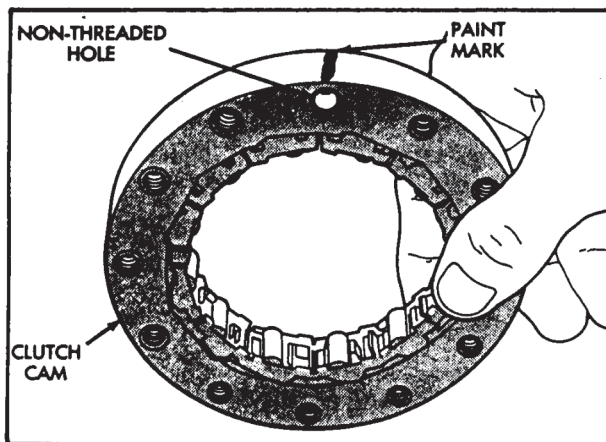

Figure 34
10. Examine the bolt holes in the overrun clutch cam. Note that one hole is not threaded (See Figure 34).
12. This hole should have been marked with paint before disassembly, as shown in Figure 34, with a corresponding mark on the case.
13. Notice also that the overrun clutch cam threaded holes are slightly countersunk on one side (See Figure 34).